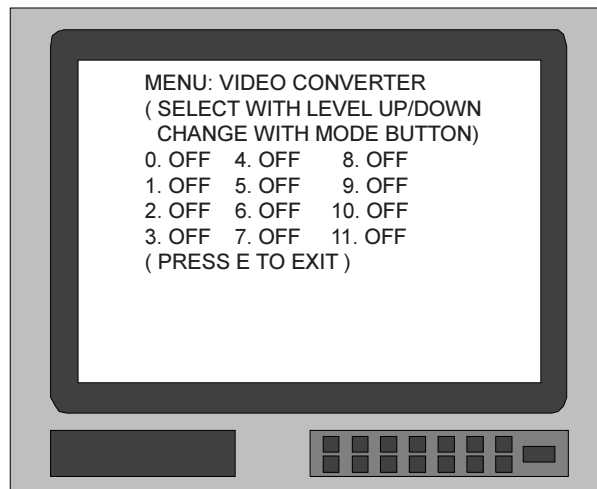

Figure 19
Note: The Video Converter Setup Menu display includes a “0” input which corresponds to Tuner, that does not have a matching video input. This was included in the On Screen menu only to maintain a display consistency. See Figure 19. The Video Converter Assignment Chart therefor does not include this input.
2. Press pushbutton number 7 on the Remote Control to access the VIDEO CONVERTER MENU, which will appear on the Monitor/TV screen. See Figure 19.